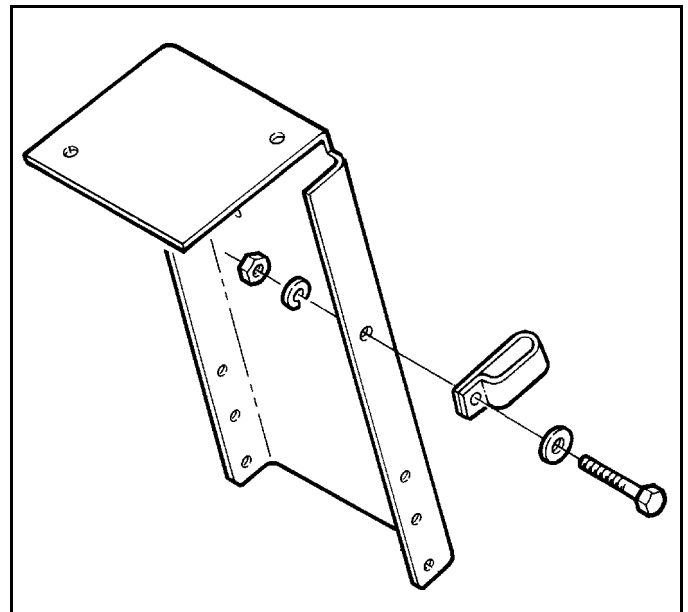

Figure 1-4
4. Secure wire harness to side of Stand Plate with Harness Clamp provided and secure with 1/4"-20 x 1" Cap Screw Lock Washer and Nut through the 9/32" Dia hole in the side of the Stand Plate. (See Figure 1-4)